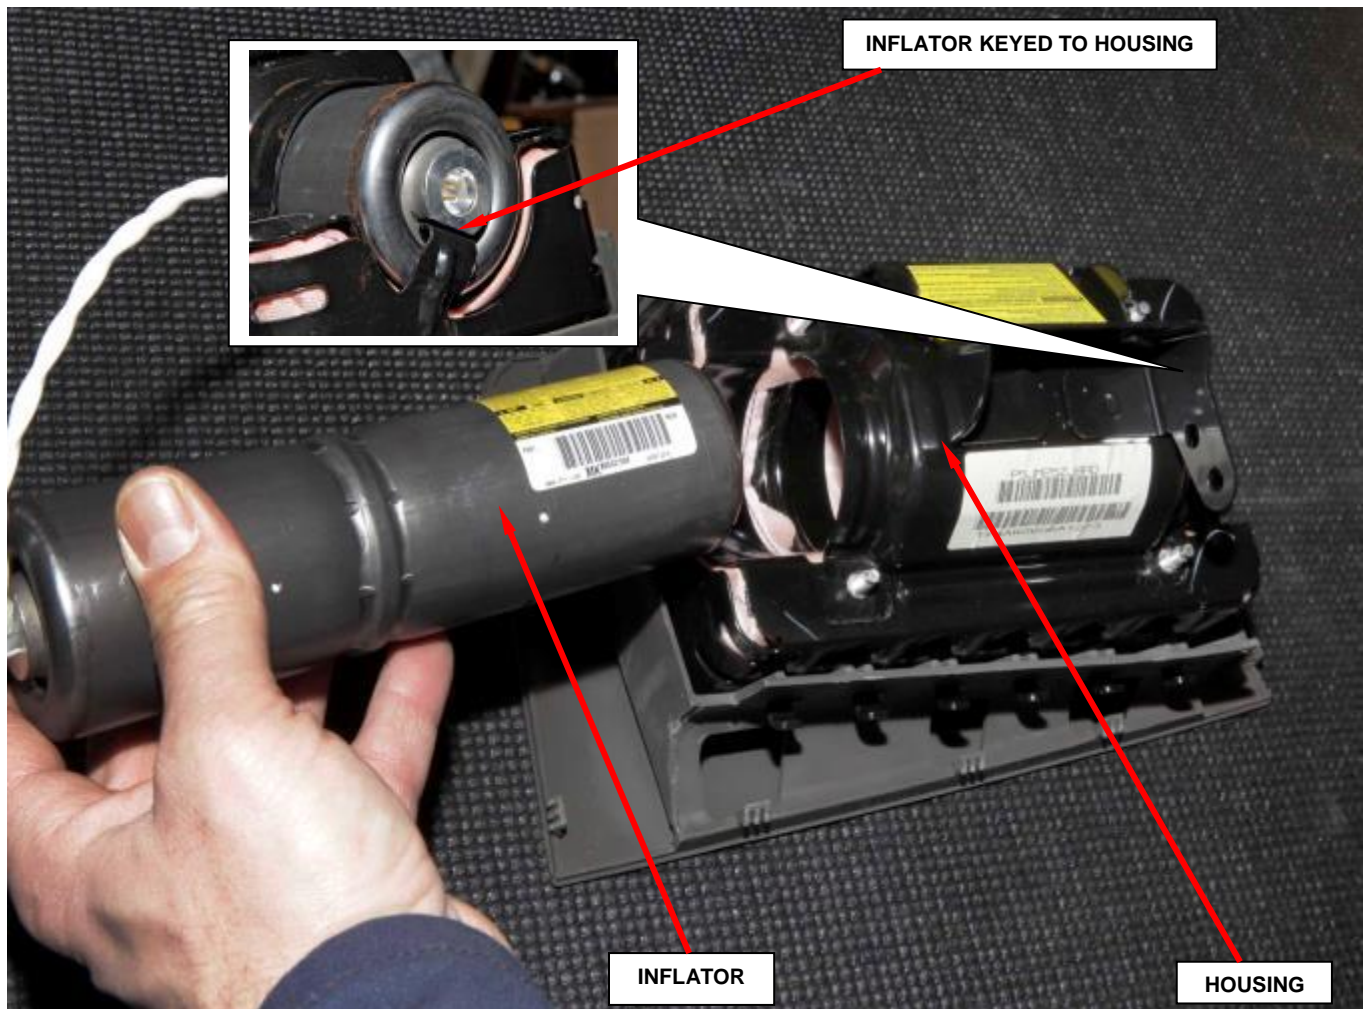

Figure 49 – Inflator Installation
- g. Slide the new inflator into the housing (Figure 49).